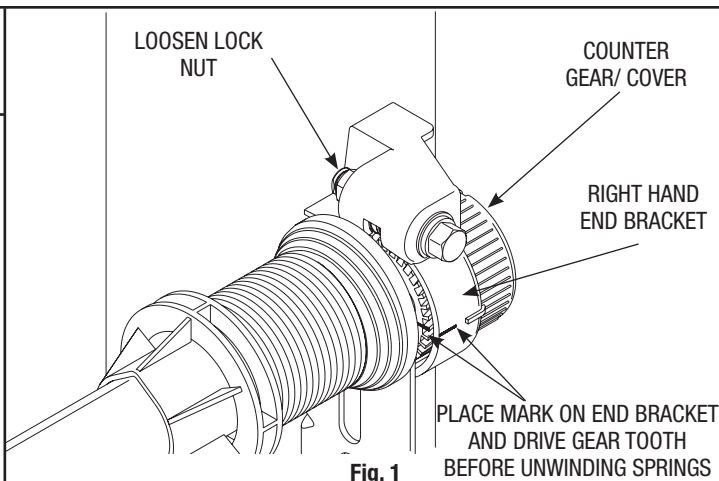

Fig. 1
Step 1: If you have a black counter cover: Place a mark on the drive gear tooth and an adjacent mark on the right hand end bracket (Fig. 1). Loosen the lock nut using a 7/16" wrench and continue with step 2.